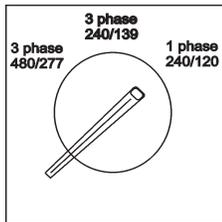

Figure 48. Voltage Selection Switch
6. Check the voltage selection switch is at the desired voltage (Figure 48).